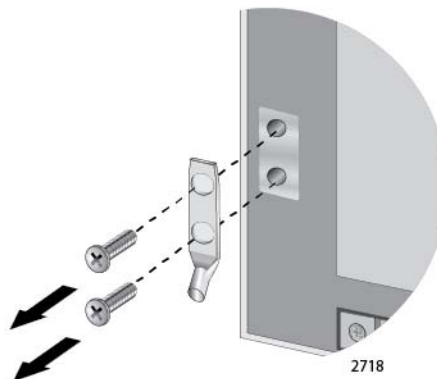

Figure 46. Removing the Grounding Lug
2. Remove the two screws that secure the grounding lug to the rear panel of the chassis, as shown in Figure 46.